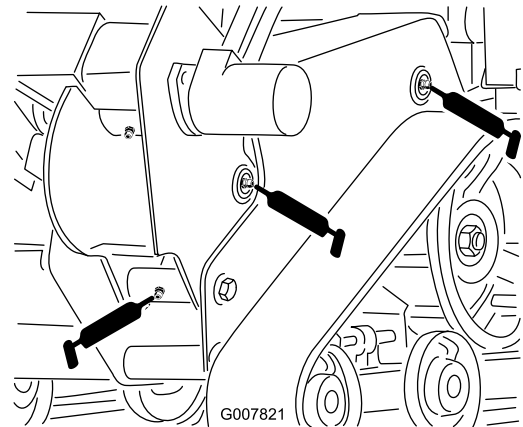
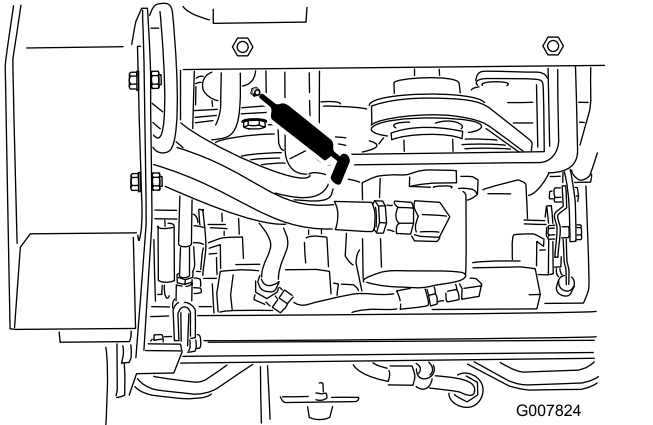

Figure 26
Figure 29
4. Connect a grease gun to each fitting (Figure 26 through Figure 29).